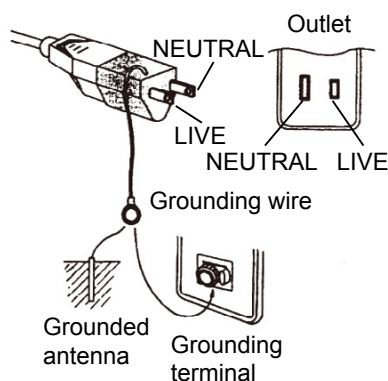

Figure 1
- Do not connect devices other than those shown in Figure 1 to the connectors on the rear panel of this product. In addition, securely connect the grounding terminal of the AC power cord.
- (1) **Make sure that the power of the product is turned off. Then, insert the AC adapter plug into the power input connector and insert the AC power cord plug into a outlet.**
Be sure to ground the AC power cord. (See Figure 1 on page 1)